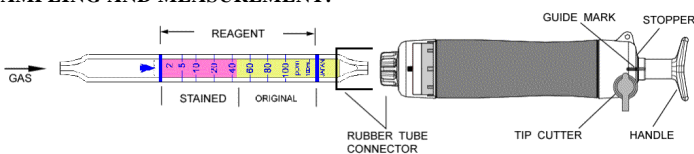

Fig.1
- ② Insert the detector tube into the aspirating pump securely as shown in Fig.1. (Arrow mark shall point to the pump.)
- ③ Align the guide marks on the shaft and stopper of the aspirating pump.
- ④ Pull the pump handle at a full stroke until it locks and wait for 1 minute or until the completion of sampling is confirmed with the flow indicator of the pump. (See descriptions about the flow indicator in the instructions of the pump.)
- ⑤ On completion of sampling, read the scale at the maximum point of the stained layer.
- ⑥ When the concentration is below the scale range, multiple pump strokes can be used to determine these lower concentrations. In case of 2, 3 or 4 pump strokes, then the following equation is available for true concentration after humidity correction undermentioned. (REFER TO ITEM 3. CORRECTION FOR AMBIENT CONDITIONS.)